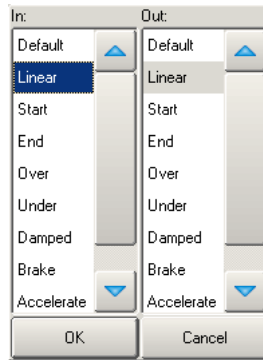

Figure 20.9. Selecting a Path in an Editor
4. Choose a path from the displayed list; see Figure 20.9, “Selecting a Path in an Editor”.